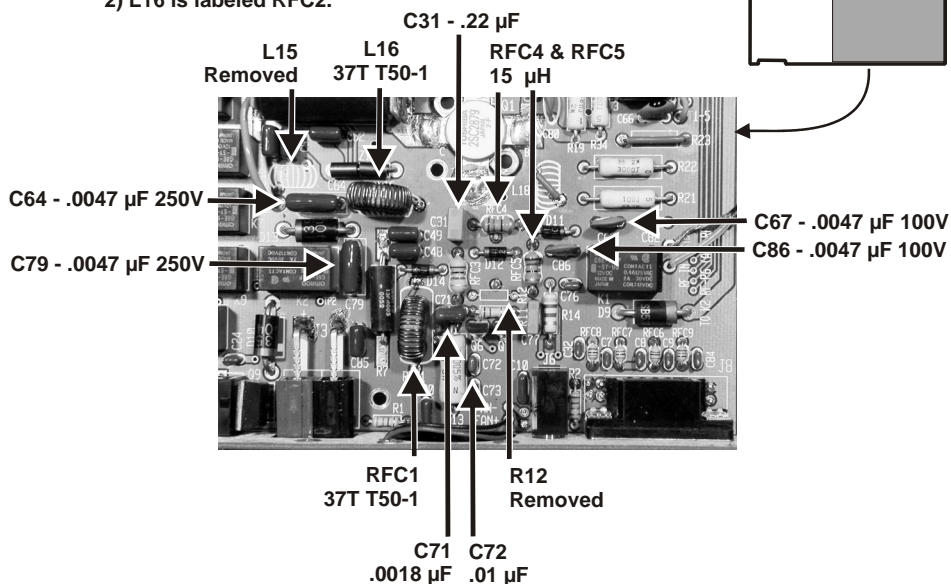

Figure 5. T/R Switch Components.
7. **Page 6, Figure 5:** Cut out the new figure 5 below and paste it over figure 5 in the manual.